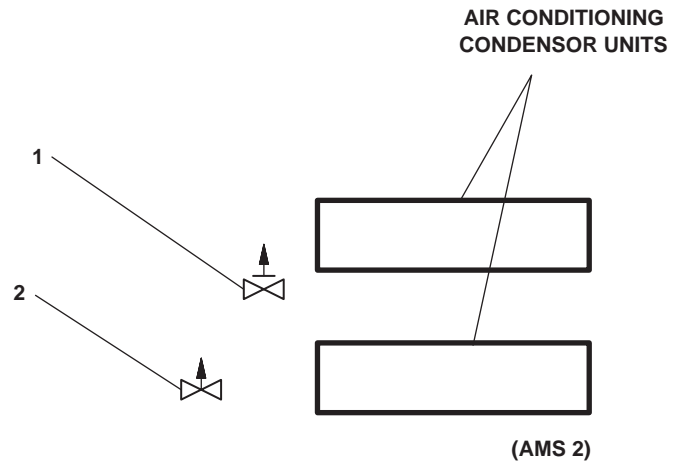

Figure 2. Air Conditioning Piping Valve Locations
- a. OPEN RFAC-39, LIQUID LINE CRVR CO. (figure 2, item 1) (overhead).
- b. OPEN RFAC-41, SUCT LINE CRSVR COV. (figure 2, item 2) (overhead).
- a. Close RFAC-39, LIQUID LINE CRSVR CO. (figure 2, item 1).
- b. Close RFAC-41, SUCT LINE CRVSR CO. (figure 2, item 2).